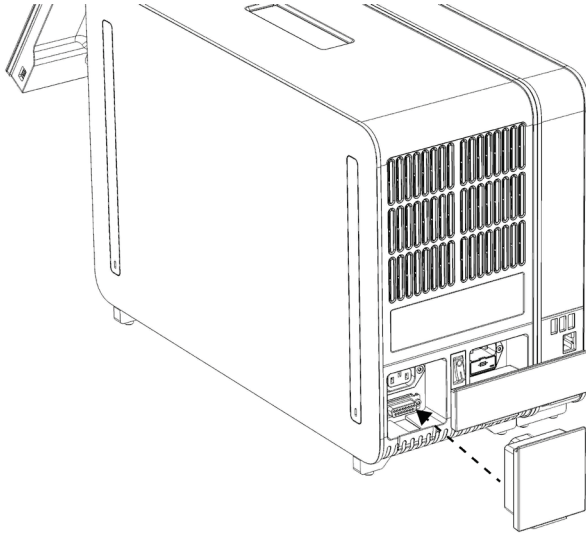

Figure 9. Connecting the Termination Bridge.
6. Connect the Termination Bridge at the back of the Analytical Module (Figure 9, next page).